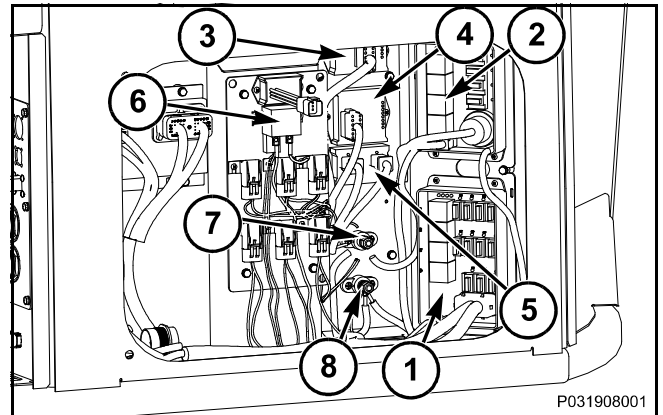

FIG. 2
FIG. 2: Power Distribution Module 1 (PDM1) (1) contains eleven fused circuits. Circuits one, two and three are unswitched power. Circuit two supplies power to ignition switch which supplies power to circuits four through eleven of PDM 1 and all of circuits in PDM 2 (2). Each PDM contains four socketed relays. In PDM1 each relay controls two fuses. In PDM2 each relay controls one fuse.